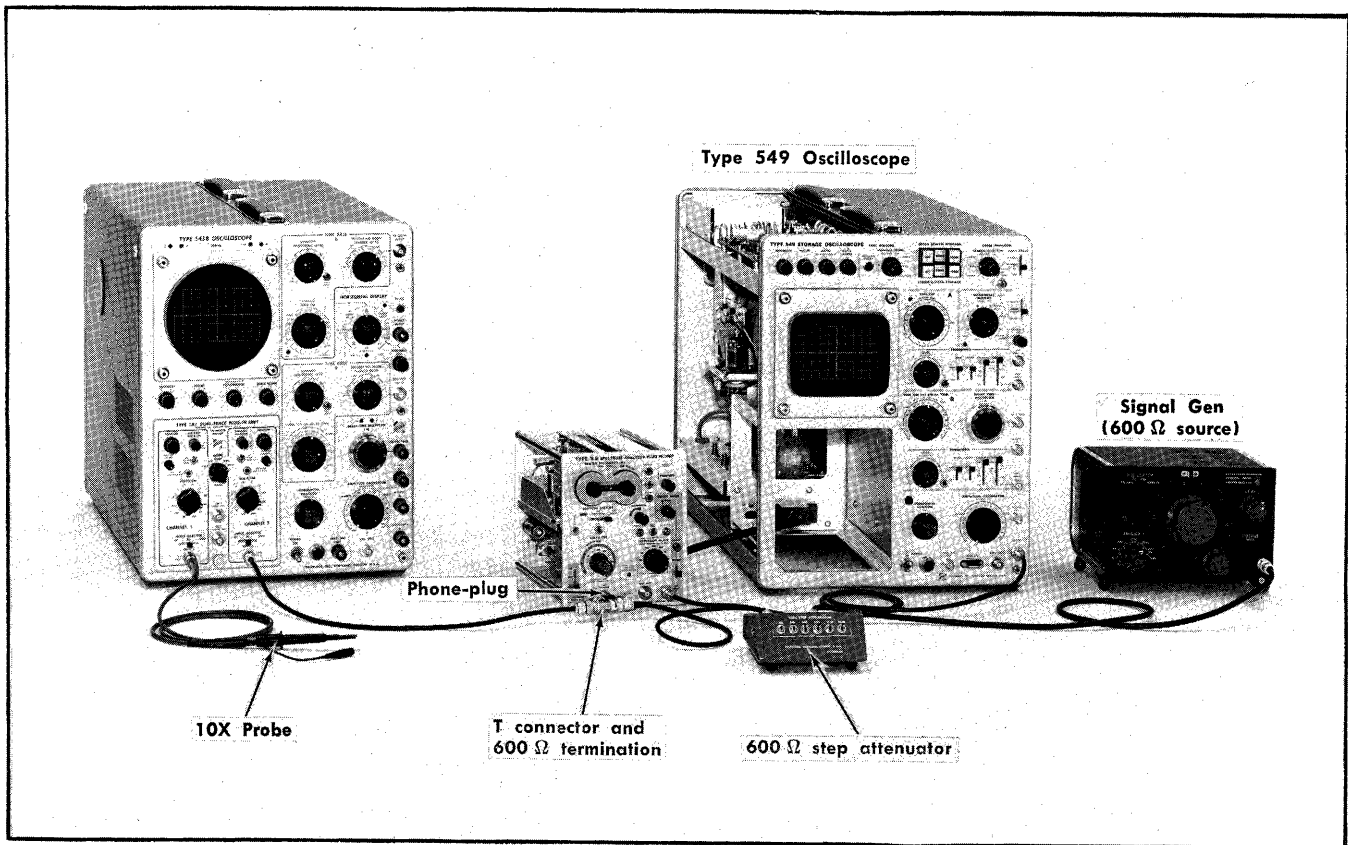

Fig. 6-11. Equipment setup to check dynamic range, adjust linear (RMS) calibration and check the recorder output signal.
- Equipment setup shown in Fig. 6-11.